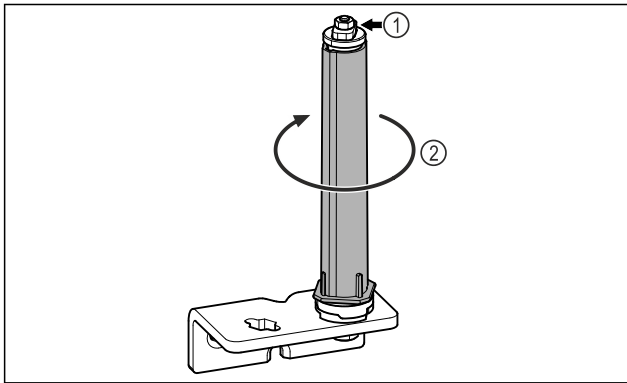

Fig. 16
- ▶ Do not disassemble the door locking system Fig. 16 (1).
- ▶ Turn the locking system Fig. 16 (2) until it clicks.